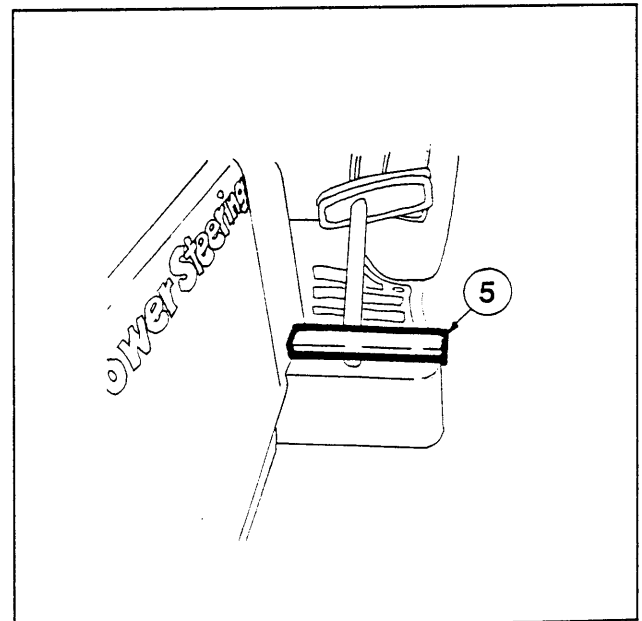

Figure 5
11. Take the 1/2"x3/4" NDAX (5) and cut two 6" pieces. Position each piece against the front, top lip of the operator foot platform. Line up the rear edges of the NDAX and the top lip, then peel off the NDAX's adhesive backing. Glue the NDAX to the platform. (see Figure 5)
12. Move to the cab. Take the 180 degree O-rubber (6) and slide it onto the bottom edge